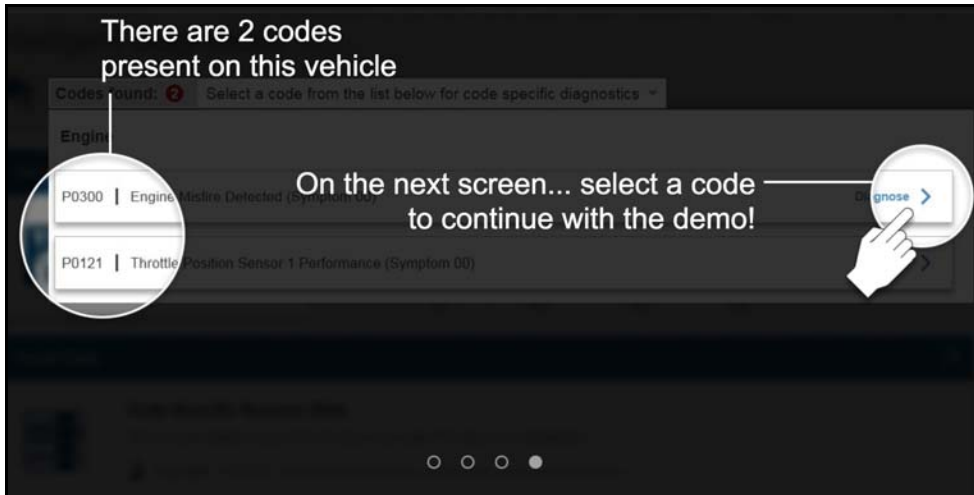

Figure 4-52
- The demo explains that two codes are available in the code list for this demo, and to choose the code shown onscreen on the next screen (Figure 4-52).